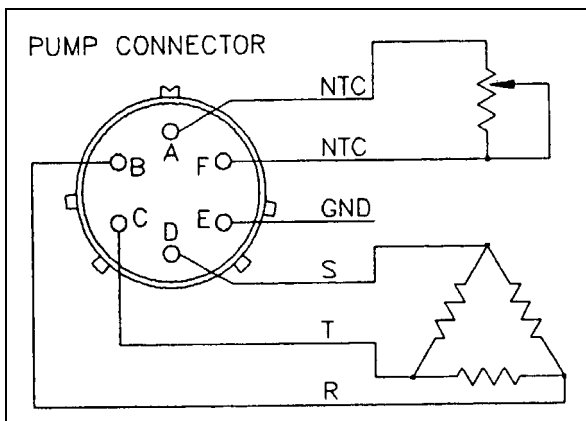

Figure 4-1 – Dummy load connections
- Set potentiometer to 30KΩ and connect it as directed in Fig. 4-1.